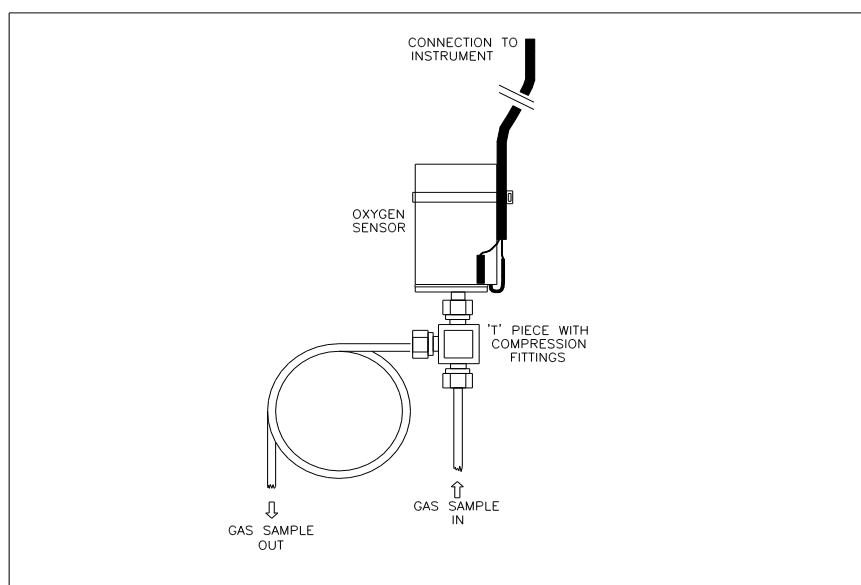

FIG.1. Typical Sampling arrangement
5.8 The Oxygen sensor should be fitted into the system pipework at an appropriate position, using the 'T' piece compression fitting provided. A typical arrangement is shown in Fig. 1 below. It is very important that the effect of backward diffusion of ambient Oxygen is avoided, particularly with a PPM measuring system. This effect can be overcome by fitting a pipe, having a length of at least 300 millimetres, to the gas exhaust port of the 'T' piece compression fitting.
- 7.4 To install a sensor into the pipework, refer to Figure 1. on Page 5 of this manual. Fit the ¼” compression fitting into the system pipework, at a convenient position and tighten the fitting nuts. Avoid over tightening the nuts - about ½ a turn beyond finger tight is sufficient to provide a good seal.